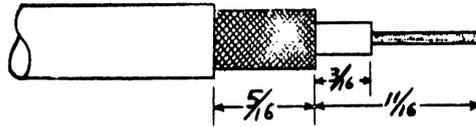

Figure 3-29
(1) The use of two-way or butt connectors shall require that the outer connector be stripped back $11/16''$ from the cable end. The center conductor insulation shall be stripped back to leave $3/16''$ of insulation showing beyond the end of the braided conductor.
(2) When the coaxial cable or shielded conductor has an outer insulation, this insulation shall be stripped back $5/16''$ from the end of the braided conductor, as shown in Figure 3-29.
(3) Install inner ferrule between the center conductor insulation and the braided shield.